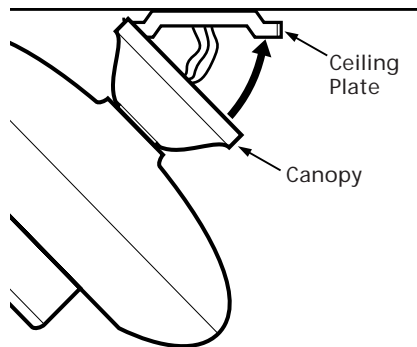

Figure 5a - Attaching Canopy to Ceiling Plate
1. Swing the fan up so as to align the canopy screw holes with the mounting holes on the ceiling plate. Refer to Figure 5a.